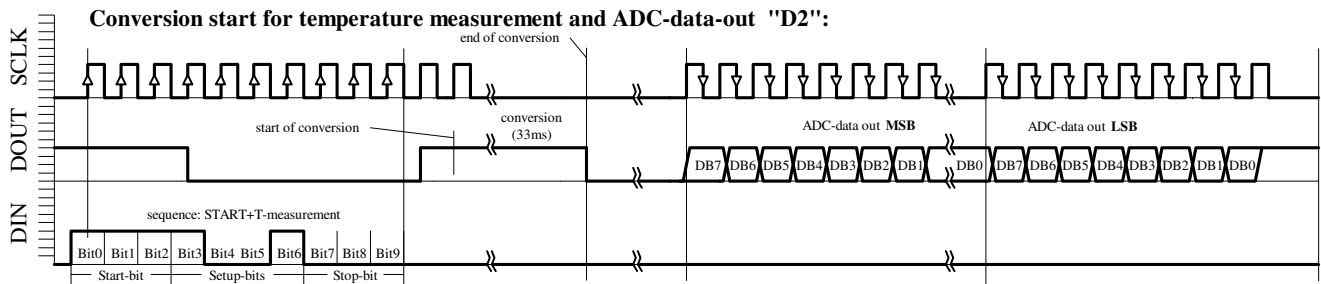

Fig. 6b: D2 acquisition sequence
- Conversion start for temperature measurement and ADC-data-out "D2" (Figure 6b)